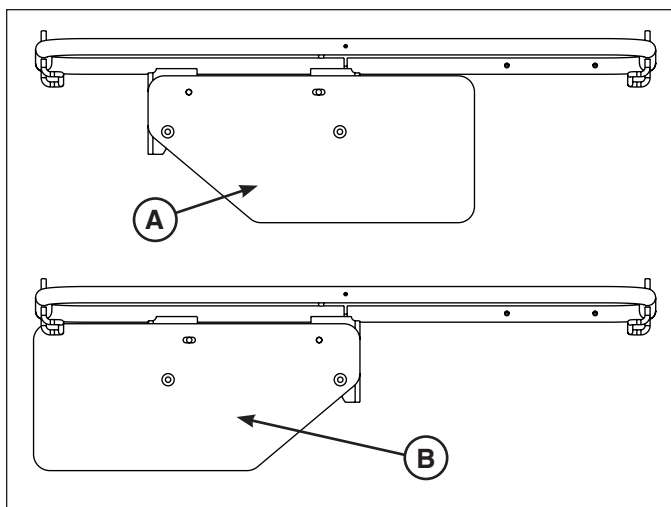

Figure 7 (Viewed from rear of catcher frame)
1. Determine the correct orientation of the heat shield for your particular model (Figure 7):